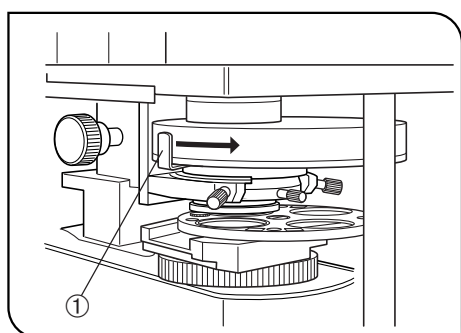
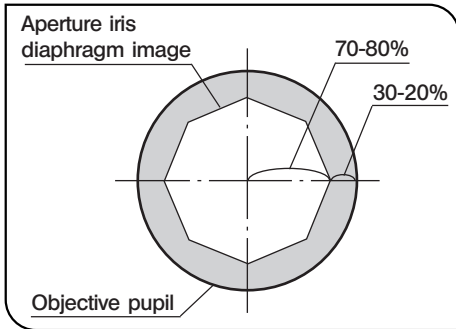

Fig. 25
Fig. 26
1. Set the aperture iris diaphragm lever ① to the open position. (Fig. 25)
- Since the contrast of microscope specimens is ordinarily low, setting the condenser aperture iris diaphragm to between 70% and 80% of the NA of the objective in use is usually recommended. If necessary, adjust the ratio by removing the eyepieces and looking into the eyepiece sleeve while adjusting the aperture iris diaphragm lever ① until the image shown in Fig. 26 is seen. (Fig. 25)